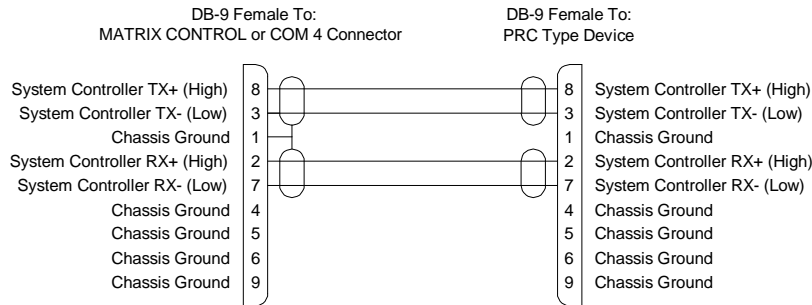

Figure 11. RS-422 Serial Cable
- MATRIX CONTROL is the communications interface to a PRC type routing switcher system and is connected to a routing switcher with an AT Serial Modem cable (Part No. 81-9028-0400-0). If necessary, a cable up to 4000 feet in length may be fabricated in the field as shown in Figure 11.